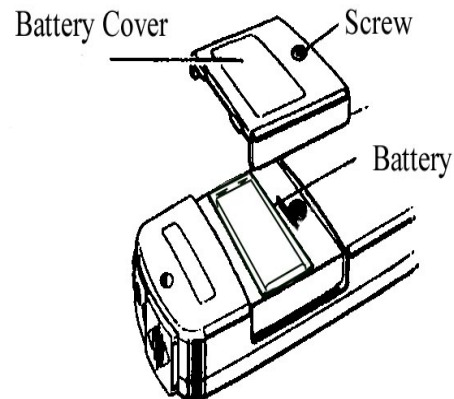

Figure 2
**Battery Replacement (refer to Figure 2)**